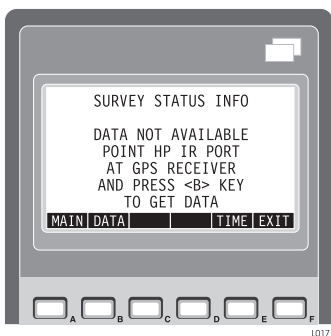

Figure 3.41: Survey Status Info Screen - Data Not Available Screen
1. From the Main Menu press the **J** (**SURVEY STATUS INFO**) key. The Survey Status Info screen appears (Figure 3.41).